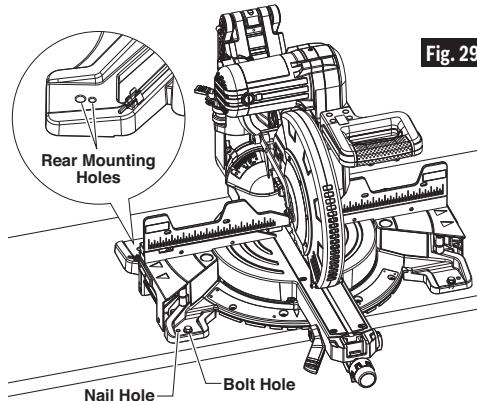

Fig. 29
1. Each of the four mounting holes should be bolted securely using 5/16" bolts, lock washers and hex nuts (not included), see Fig. 29.
WARNING To provide sufficient (minimum 6") spacing from hand to saw blade, extend the sliding fences and sliding base extensions when making extreme bevel, miter, or compound cuts (figure 29).